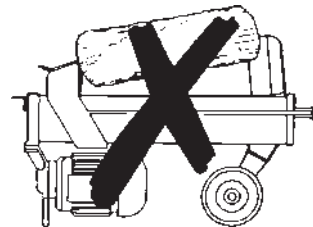

Fig. 4
- Do not force the blade by pushing the log on the upper part (Fig. 4), as this can cause the blade to break or damage the body of the machine. Always set the log on the guides.